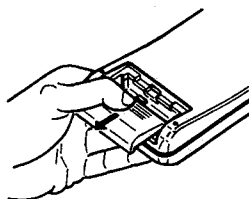
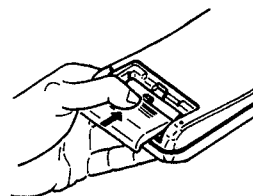

Fig. 7
Fig. 9
How to install batteries (Fig. 7 - Fig. 9)
1. Remove the rear cover of the remote control unit by pressing down on it with your thumb and simultaneously pulling it backwards, as shown in Fig. 7.
3. Reinstall the rear cover of the remote control unit. Slide the rear cover back as shown in Fig. 9.